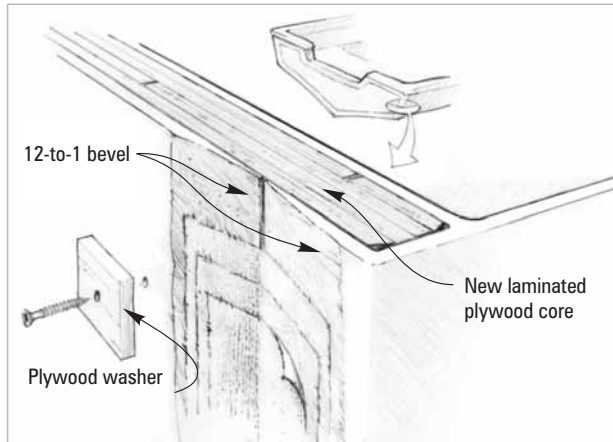

Figure 5-11 Grind a minimum 12-to-1 bevel on both sides of the joint. Laminate a repair patch over the joint to restore skin continuity.
4. Grind a minimum 12-to-1 bevel on both sides of the joint. The outside edge of the bevel should be short of the corner, as described earlier in Section 5.3.1—*Planning the repair*. Laminate a repair patch over the joint to restore skin continuity (Figure 5-11). The bevel will provide a recessed bonding area for the application of fiberglass fabric and allow the patch to be faired flush with the surface. The procedure for patching the joint are the same as repairing damaged skins. Follow the procedure described in Section 4.3. Limit the patch and finishing to the transom side of the corners.